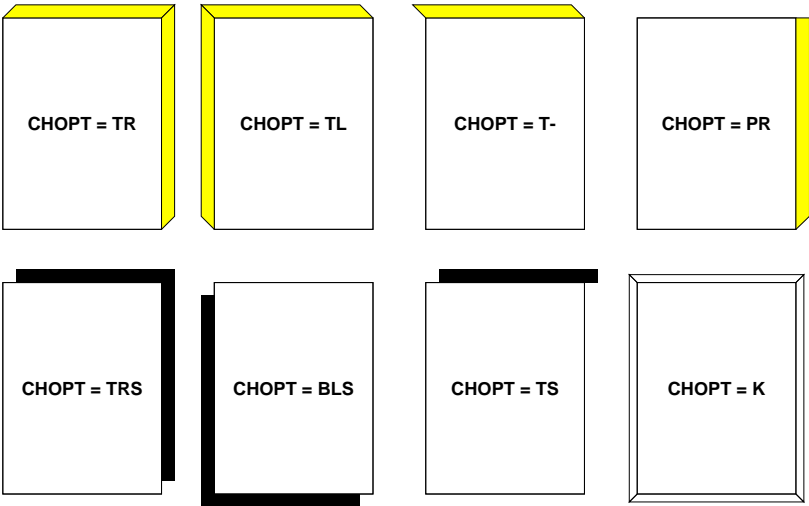

Figure 4.3: Examples of IGPAVE usage
- '-' Reverse sense for the shadow drawing (see figure 4.3).
- 'P' Cut the top of the shadow (see figure 4.3).
- 'K' The paving-block is drawn like a button (see figure 4.3).